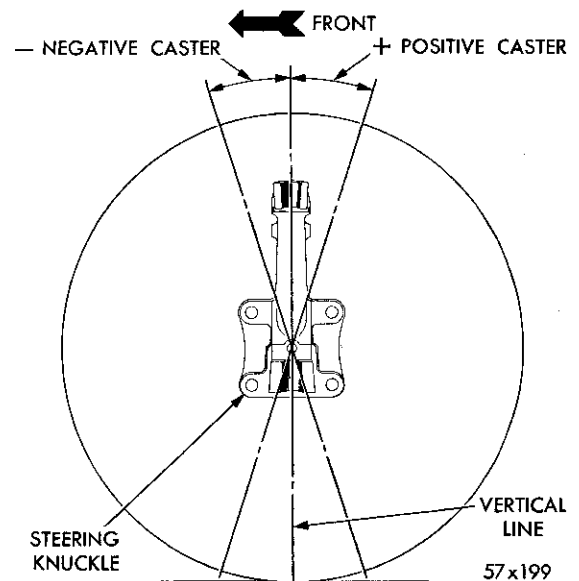

Fig. 16—Caster Angle
**Negative Caster** is amount in degrees that the axis of the ball joint leans from vertical toward front of car (Fig. 16).
Steering axis inclination is amount in degrees that axis of the ball joints lean away from vertical toward center of car (Fig. 16). If camber can be adjusted within the recommended limits, it is unnecessary to check steering axis inclination.
To check axis inclination refer to Figs. 16 and 17 and proceed as follows: